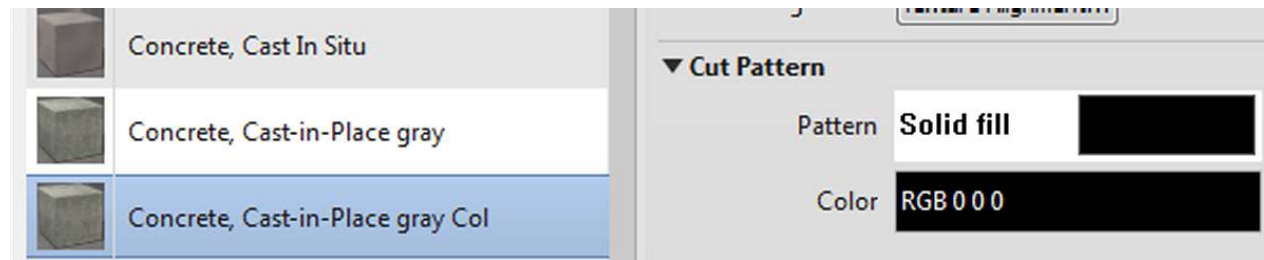

Fig. 2.7 – Cut Pattern for Material
6. Select Cut Pattern = Solid Fill, Color = RGB 0, 0, 0 (Black) (Fig. 2.7).